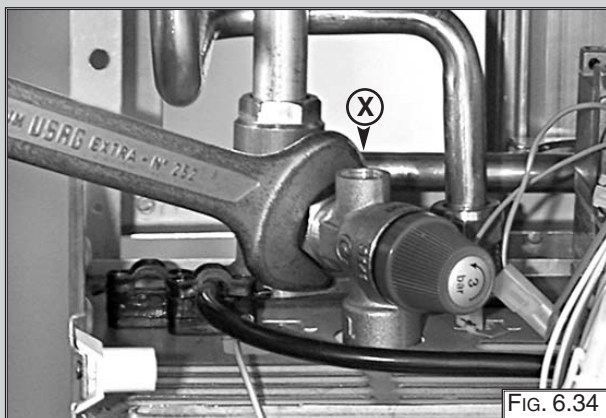

FIG. 6.34
2. Unscrew and remove the valve "X" (FIG. 6.34).